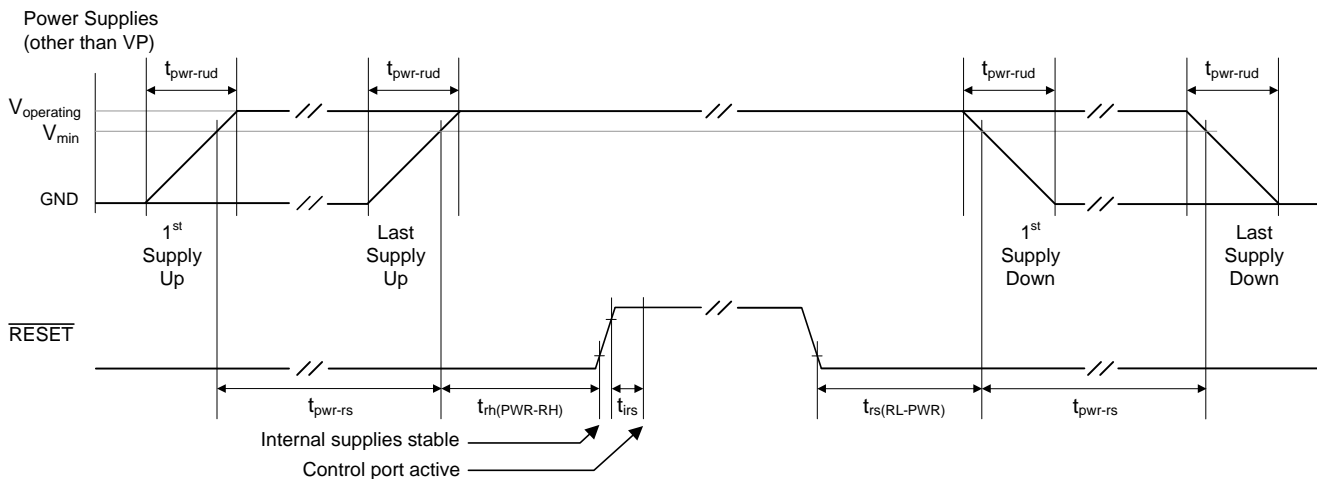

Figure 10. Power and Reset Sequencing
- Refer to Figure 10 on page 42.